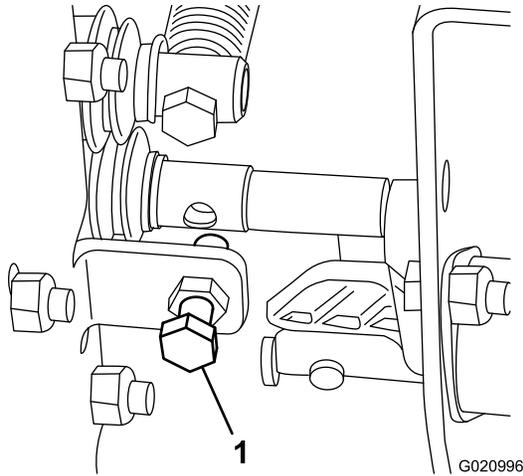

Figure 24
- If the lift speed of the machine is too slow or too fast, adjust the bolt indicated in Figure 24.